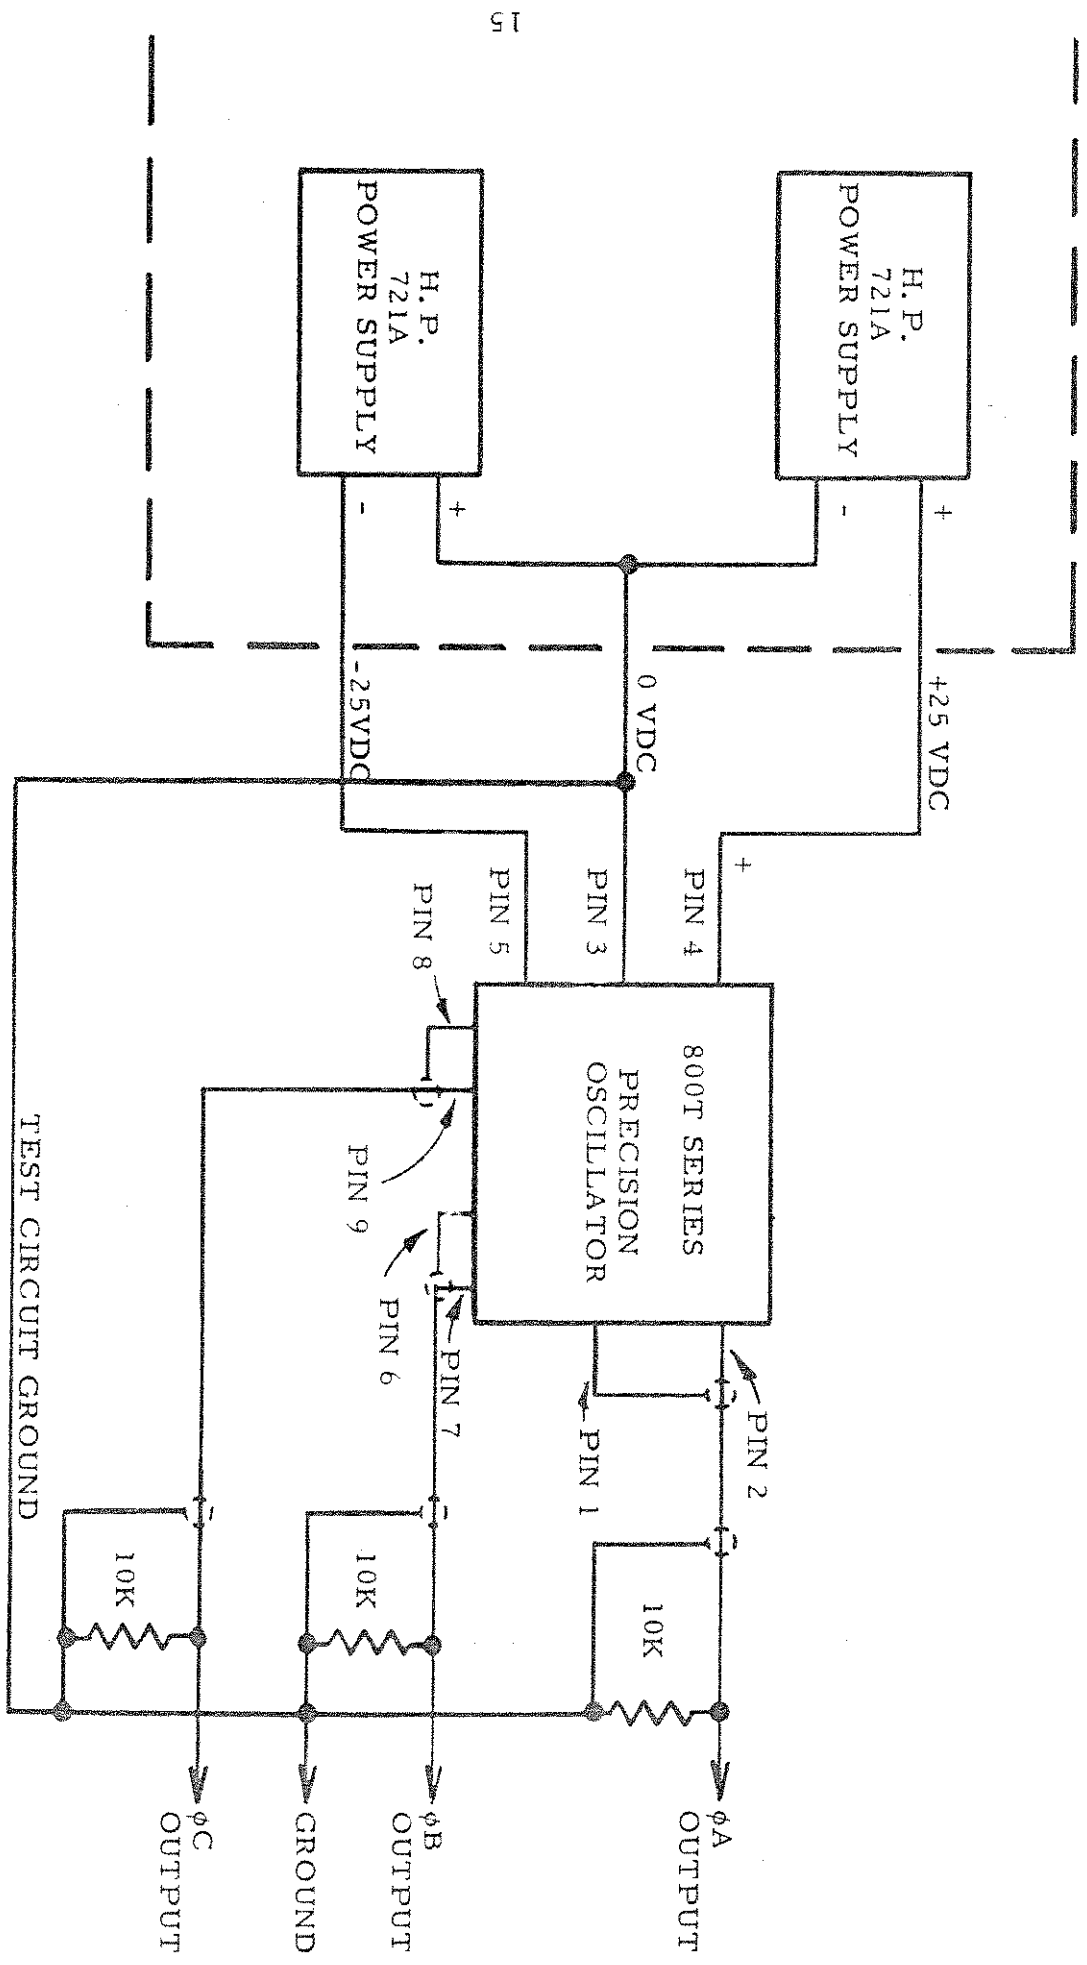

FIGURE 5. Test Circuit for 800T Series Variable Frequency Oscillators
4.3.1 Connect the variable frequency oscillator as shown in Figure 5 and allow the unit to warm up for one hour in a 25°C environment. The output voltage should be approximately 5 volts rms. Adjust the AMPLITUDE control on the multiphase oscillators, as required.
- 4.4.1 Connect the variable frequency oscillator as shown in Figure 5 and allow the unit to warm up for one hour in a  $25^{\circ}\text{C}$  environment. Set the frequency of the oscillator to 400 Hz. In the case of a multiphase oscillator, rotate the AMPLITUDE control fully clockwise.
4.5.1 Connect the variable frequency oscillator as shown in Figure 5 and allow the unit to warm up for a few minutes. In the case of multiphase oscillators, turn the AMPLITUDE control fully clockwise.
This section of the manual is only applicable to the multiphase oscillators. Connect the oscillator as shown in Figure 5 and allow the unit to warm up for one hour in a 25°C environment.
5.4.1 Connect the variable frequency oscillator as shown in Figure 5 using either the  $\pm 25$  volt power supply in the California Instruments Invertron® or a pair of external  $\pm 25$  volt and  $-25$  volt DC power supplies. Each power supply should draw from 15 to 30 milliamperes. Allow the unit to warm up for one half hour. Check that the procedure given in 5.3.1 and 5.3.2 has been performed before proceeding further.
5.10.1 Connect the Model 800T-20/20K-1-2 $\phi$  Oscillator as shown in Figure 5 using either the  $\pm 25$  volt power supply in the California Instruments Invertron® or a pair of external  $\pm 25$  volt and -25 volt DC power supplies. Check that the procedure given in Section 5.3 through 5.9 of this instruction manual have been performed before proceeding further.
5.11.1 Connect the 800T-20/20K-1-3ØD oscillator as shown in Figure 5 and repeat step 5.10.1 through 5.10.7 except check that the phase shift is 60 degrees  $\pm$  2 degrees.
5.12.1 Connect the 800T-20/20K-1-3Ø oscillator as shown in Figure 5 and repeat steps 5.10.1 through 5.10.7 except check that the phase shift is 120 degrees  $\pm$  2 degrees.